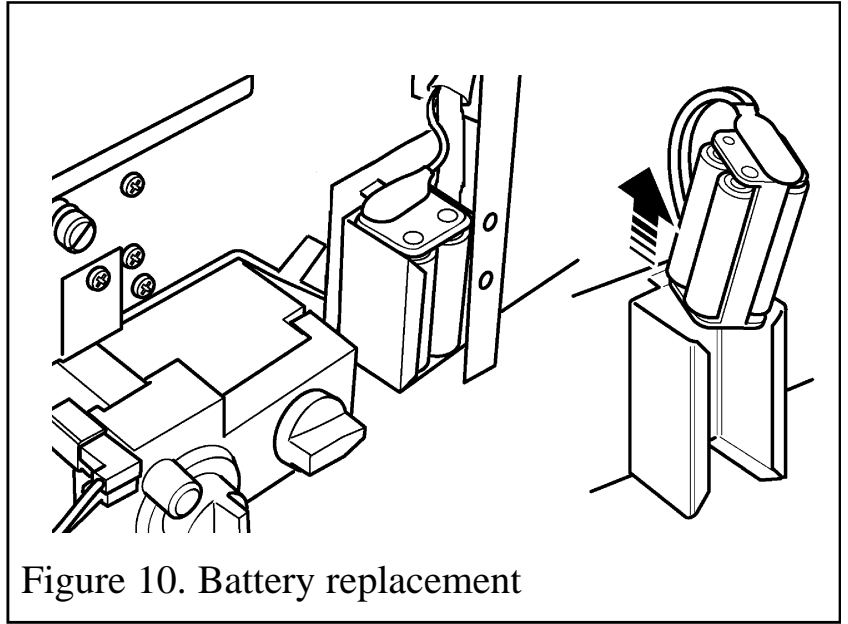

Figure 10. Battery replacement
- The battery case is at the right side. Lift the plastic battery holder out of the metal case and detach the batteries (See figure 10).